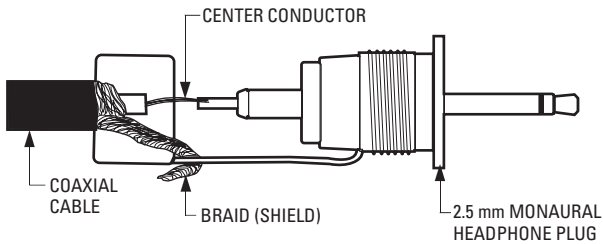

Figure 15. Attaching the 2.5 mm Monaural Headphone Plug
2. Attach the 2.5 mm monaural plug to the other end of the coaxial cable (refer to Figure 15):